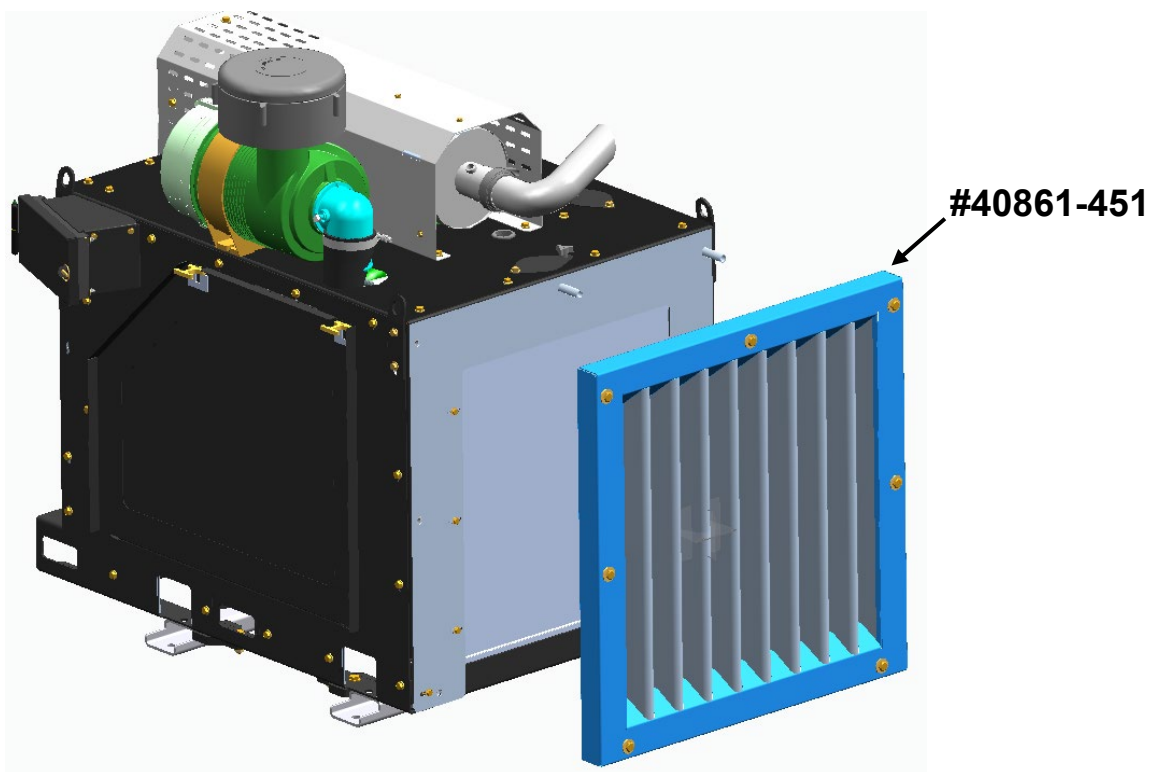

Figure 6
5) See Figure 6. Install Muffler Assembly, Radiator Cover, Access Panel, and Engine Air Intake Assembly using existing hardware then install replacement debris screen as shown.